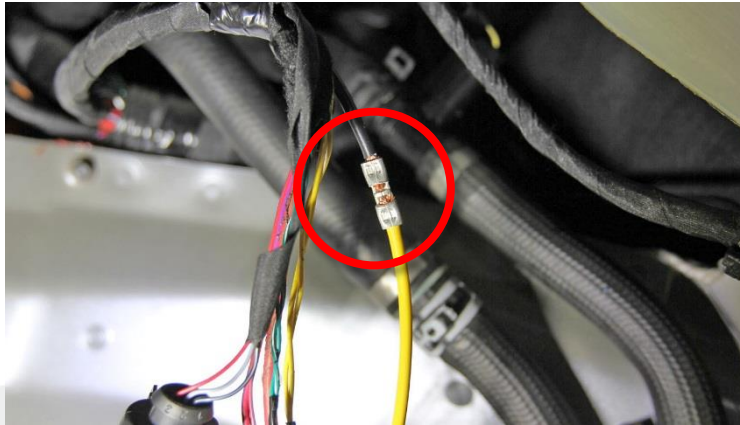

Figure 40
14. Install a barrel connector from the electrical harness repair kit over the wires, and then crimp the wires (Figure 40). Refer to SI-17-17-002 for additional information regarding the proper size of barrel connector.